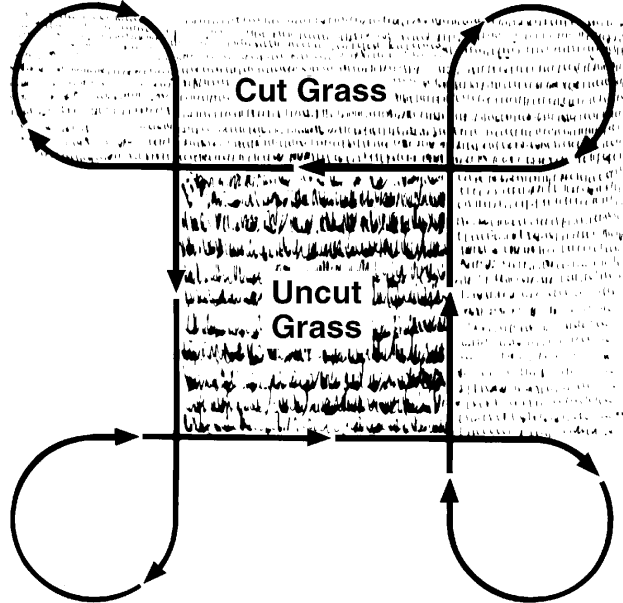

Figure 59
4. Follow the mowing pattern shown in Figure 59.